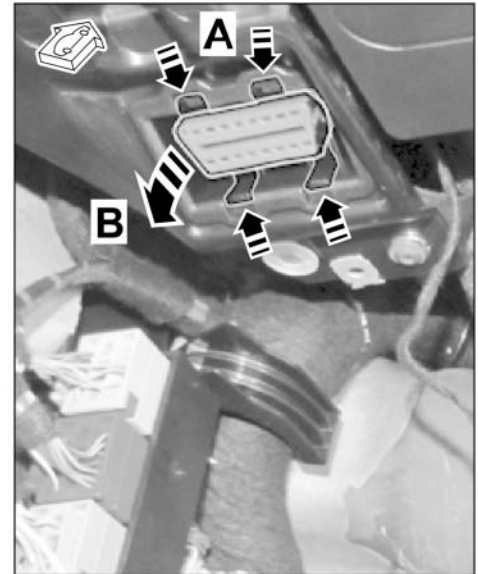

Figure 6
1.7 Remove diagnostic socket (under dashboard ⇒ *Figure 6*).
1.7.1 Press locking lugs (4 x) on diagnostic socket at the same time (⇒ *Figure 6 -A-*).
1.7.2 Pull diagnostic socket forward out of the dashboard retaining frame and remove it (⇒ *Figure 6 -B-*).